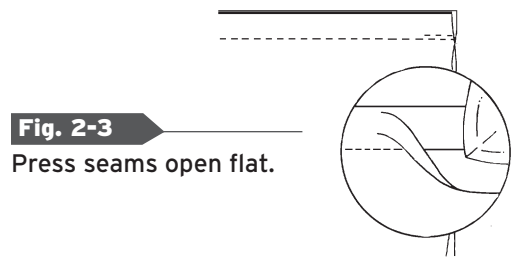

Fig. 2-3
6. Press the seam open flat unless directed otherwise. (Fig. 2-3)